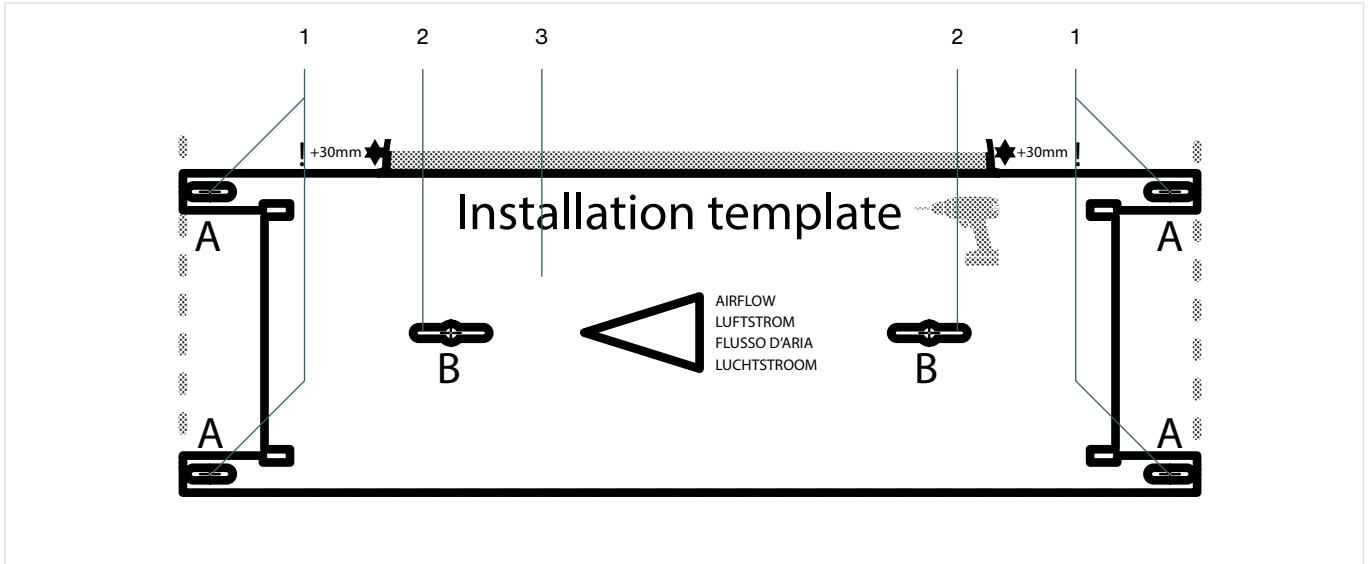

Fig. 5.4 – Attaching VM
1. Attach the VM frame (Fig. 5.4, pos. 3) to the wall or ceiling with dowels and screws according to option A (Fig. 5.4, pos. 1) or option B (Fig. 5.4, pos. 2). Use dowels and screws suitable for the relevant wall or ceiling.